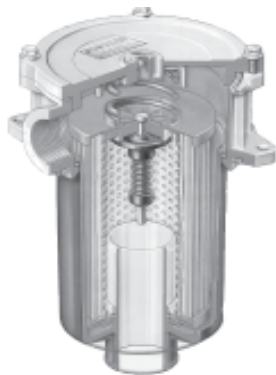

Figure 10
2. Clean the filter cover and all componets around filter assembly. This is to prevent dirt or other contamination from entering filter and tank. (See Figure 10 & 11)